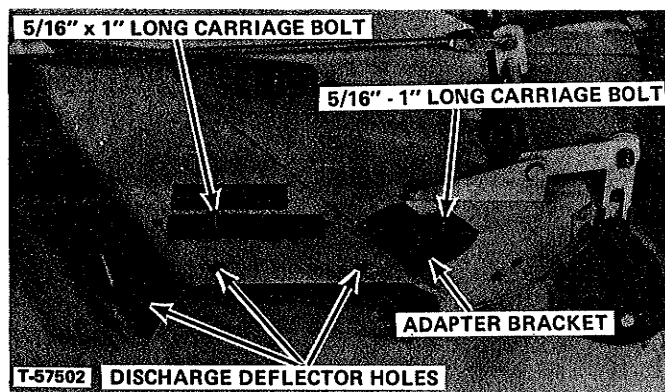

FIGURE 22 - L.H. Side of Mower
4. See Figure 22. Attach the adapter bracket to mower platform as shown. Install two 5/16 x 1 inch long carriage bolts with locknuts that are required to hold adapter in place.